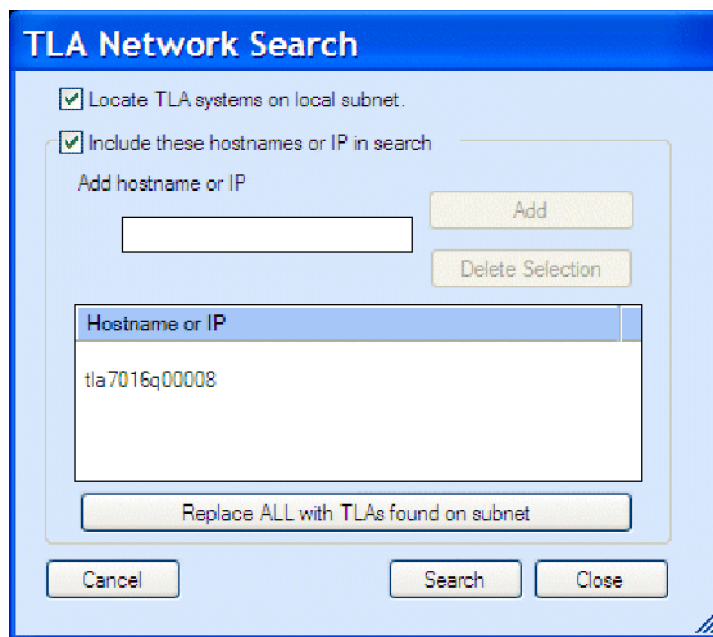

Figure 9: TLA Network Search dialog box
- a. Click  (Search icon) to open the TLA Network Search dialog box. (See Figure 9.)